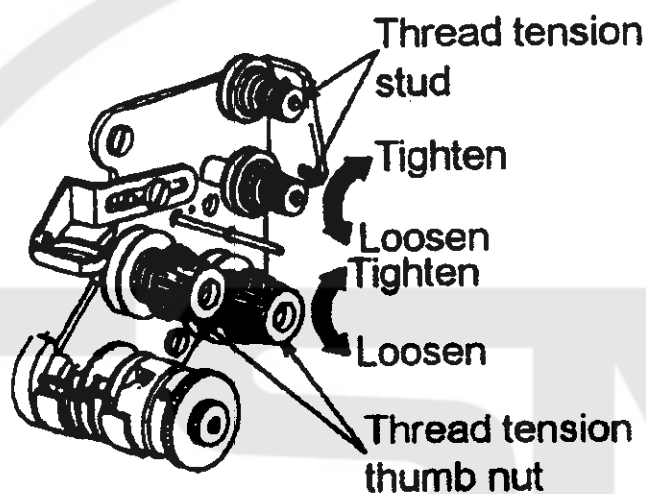

Fig. 10
14、 Adjustment of upper thread (Fig.10):